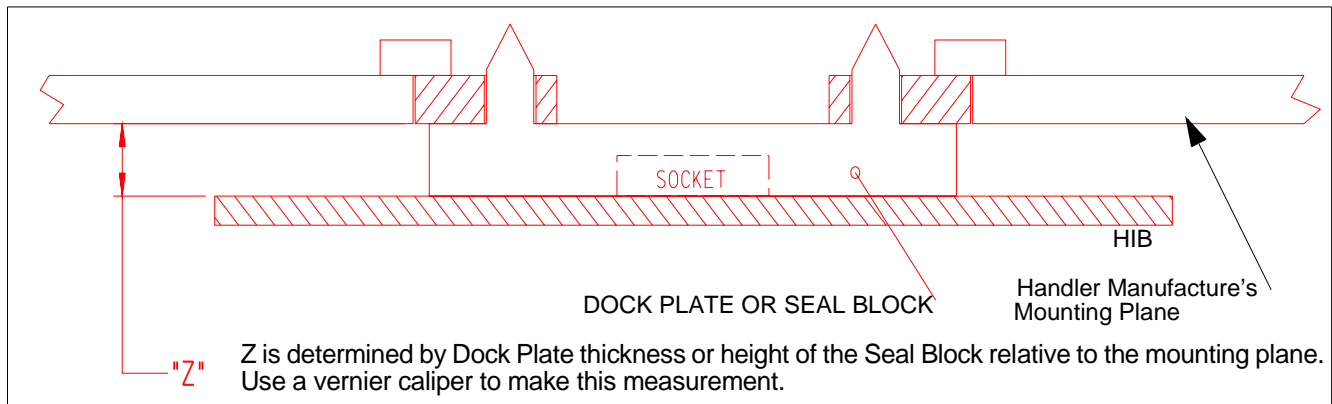

Figure 23 Mounting Block Z-Height
- 1) Determine the new Z-height. See Figure 23.